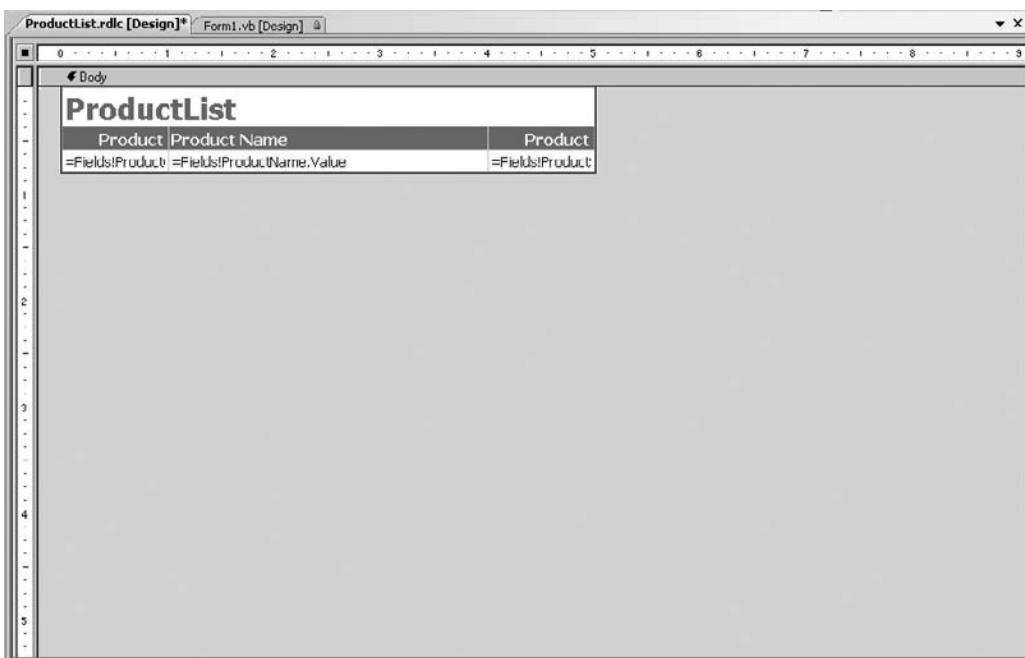

Figure 18-18 The ProductList report layout
17. Widen the middle column of the tablix. The report layout should appear similar to Figure 18-18.